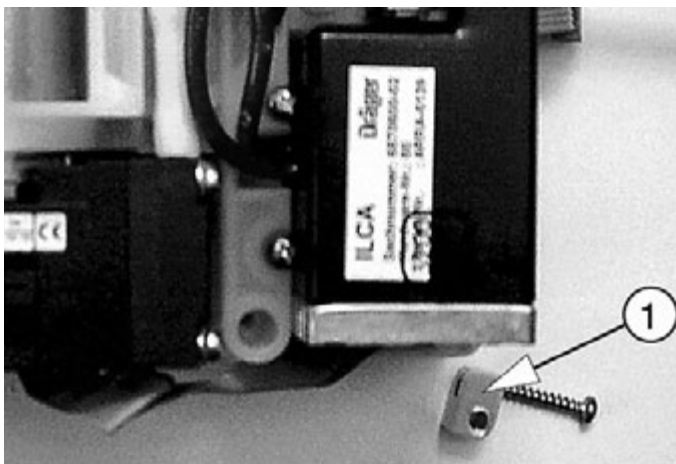

Fig. 8 ILCA module, sensor-head holder
- Remove the sensor-head holder (Fig. 8/1).